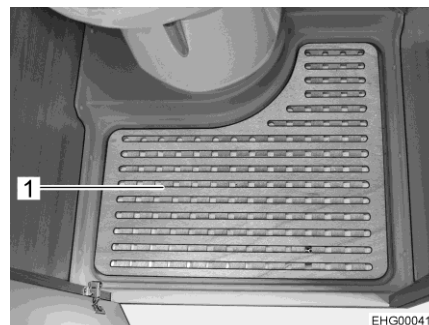

Fig. 110 Removable floor plate
- Take out the removable floor plate (Fig. 110,1) for showering.